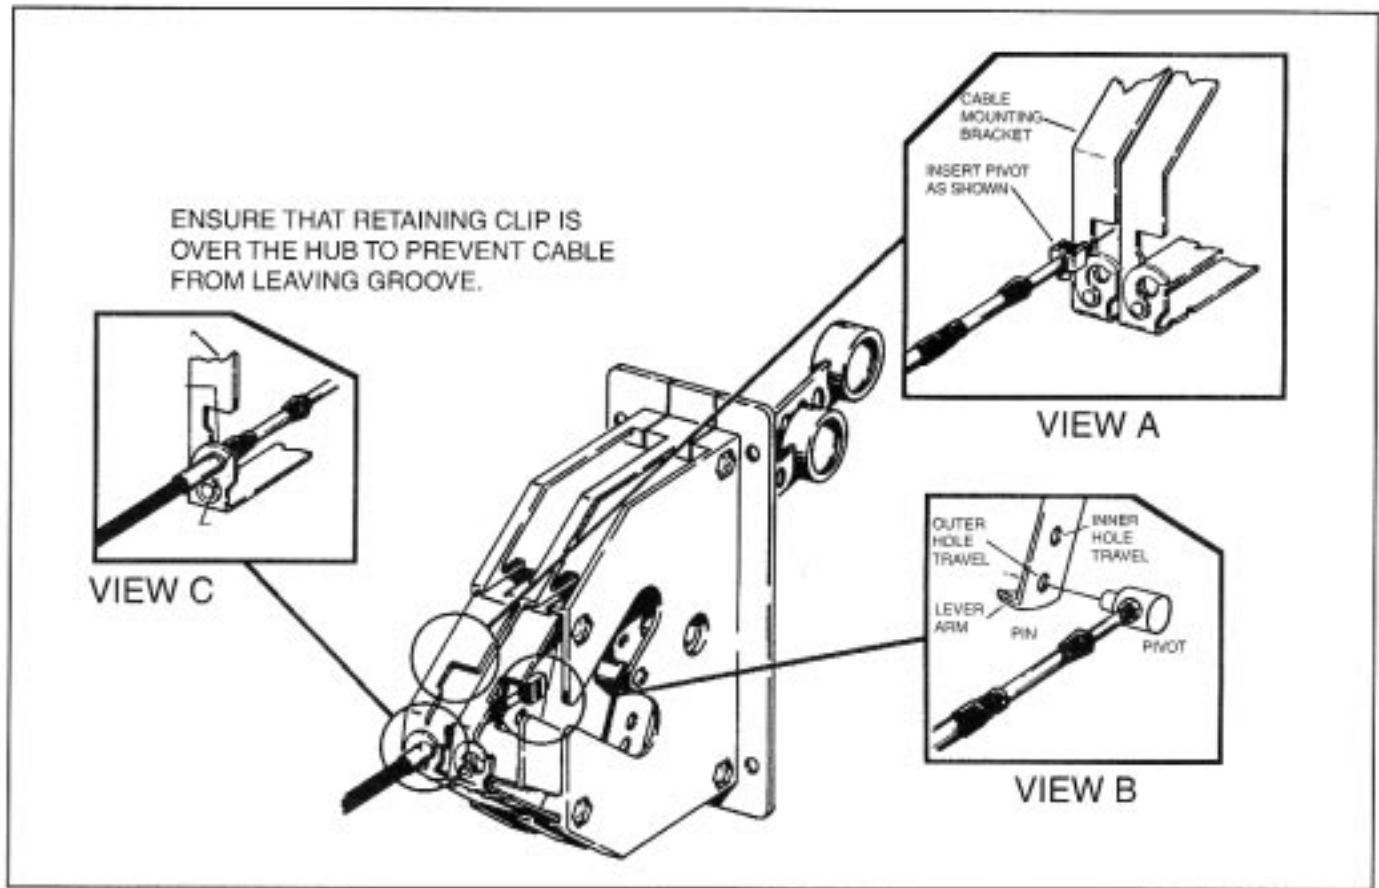

FIGURE 6
3. Throttle and shift lever handles must point away from the opening in the mounting slot on the cable mounting bracket for proper installation of the cables. See Figure 6.
4. Insert the cable between the cable mounting brackets as shown in VIEW A of Figure 6.
5. Insert the pin into either the inner or outer hole on the shift and/or throttle lever arm, as required. See VIEW B of Figure 6.
6. Slide the cable groove into the mounting slot on the bracket past the retaining clip. See VIEW C in Figure 6.
4. Push the rod thru the bottom side of the collet housing (side opposite the adjustment screw) until the rod retainer can be installed thru the hole in the control housing, as shown in Figure 6. Secure the rod retainer with the e-ring provided.